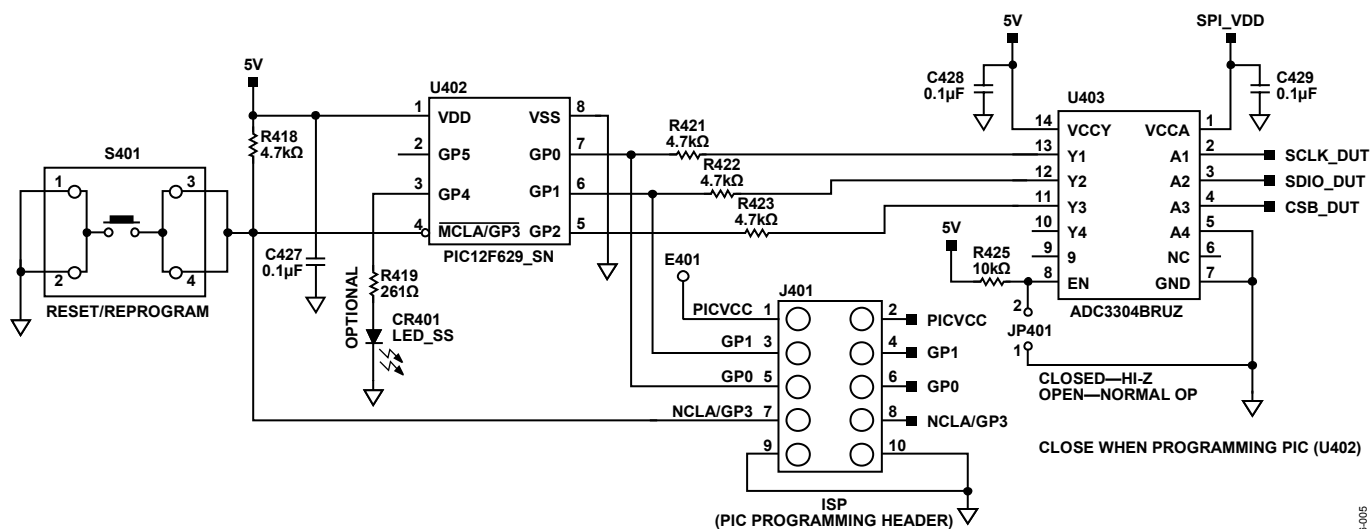

Figure 5. SPI Boot Circuit with Translator
the SPI port is 1.8 V tolerant, the ADG3304 can be set so that it translates the SCLK, SDI, and CSB signals from 5 V to 1.8 V. The ADG3304 is an easy-to-use solution that requires very few external components. Moreover, the user can disable the outputs from the translator at any time by pulling Pin 8 (EN) low. Figure 5 shows the implementation of the SPI boot circuit with the voltage level translator.